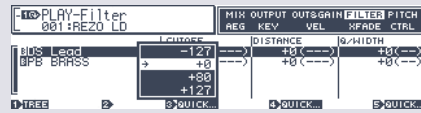

Figure 23
Level, Pan and Cutoff are among the parameters that can be offset on the plus (+) or minus (-) side from the original sample parameters, so you can modify settings globally while keeping intact the sound level balance, etc. of samples within a sample bank. For convenience, the sample values actually set are displayed to the right of the offset values. To revert the values to the same configuration as originally set, you need only set the offset value to zero (0). (See Figure 23). By selecting =Smp, output settings on the sample side can be made by exchanging sample parameter settings.